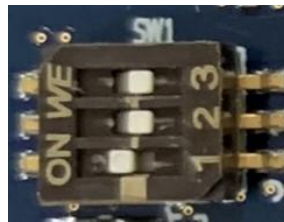

Figure 3.9 Default Setting of System Setting DIP Switch (SW1)
**Table 3.6** provides functions of the DIP switch and **Figure 3.9** indicates a default terminal state.